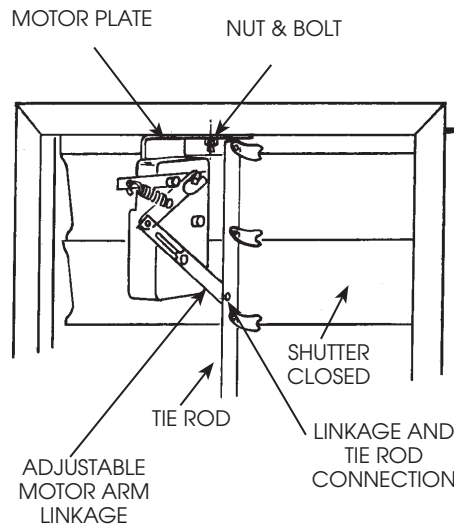

Figure 5
1. Fasten motor plate loosely to shutter frame with one motor plate bolt and nut (See Figure 5).
2. With shutter closed and motor arm in position shown, loosen adjustable motor arm linkage (See Figure 5).
IMPORTANT: Linkage bar must be on left side of tie rod as shown in Figure 5.